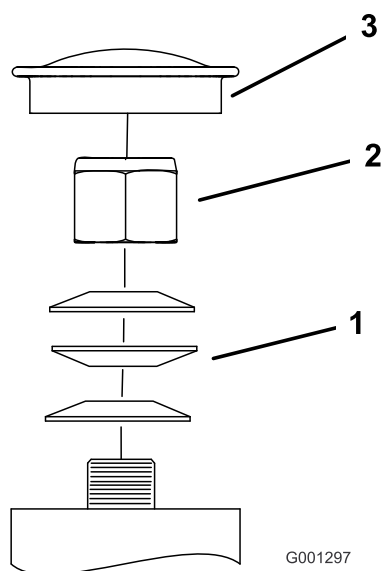

Figure 62
3. Remove the dust cap from caster and tighten locknut (Figure 62).
4. Tighten the locknut until the spring washers are flat and then back off a 1/4 turn to properly set the pre-load on the bearings (Figure 62).
Important: Make sure the spring washers are installed correctly as shown in Figure 62.
5. Install the dust cap (Figure 62).